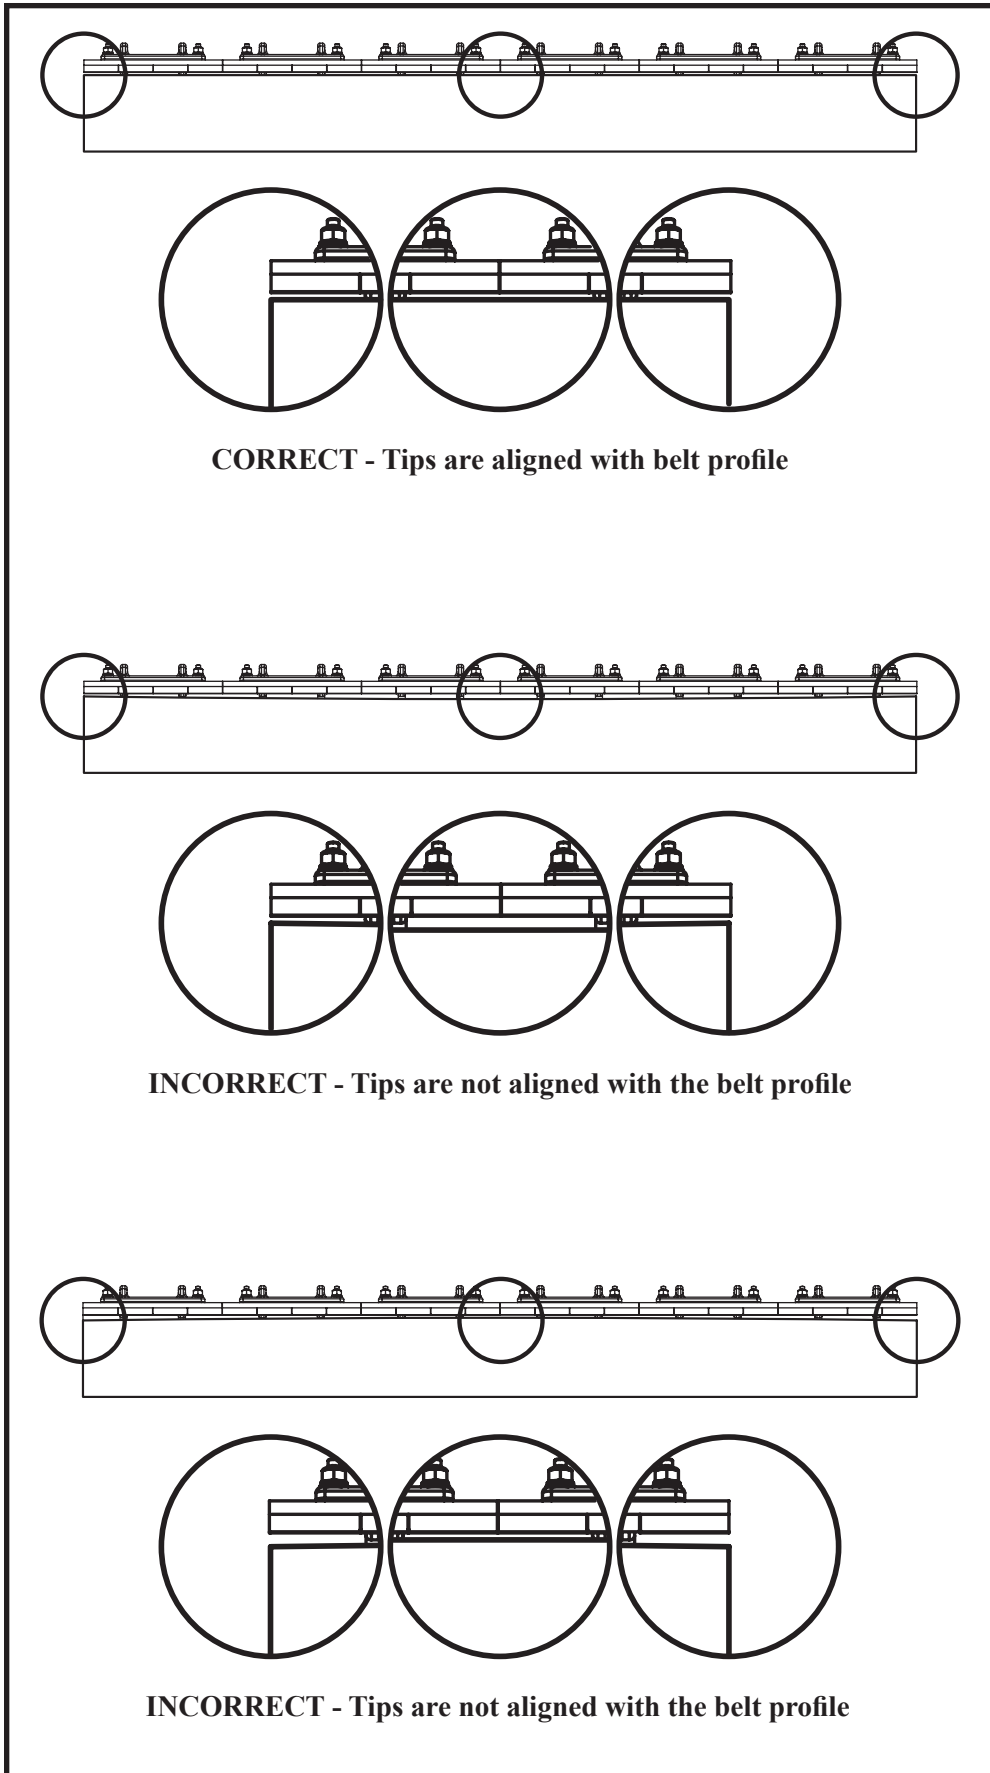

Figure 10. Martin® H1 Primary Belt Cleaner HD Tip Alignment
15. Loosen both the buffer retaining nuts on the buffer to be shimmed. Press the tip against the belt and add required shims to obtain full contact with the tip and belt profile. Tighten buffer retaining nuts and repeat for each buffer until even contact is made across the width of the belt. (Refer to Figure 10.)